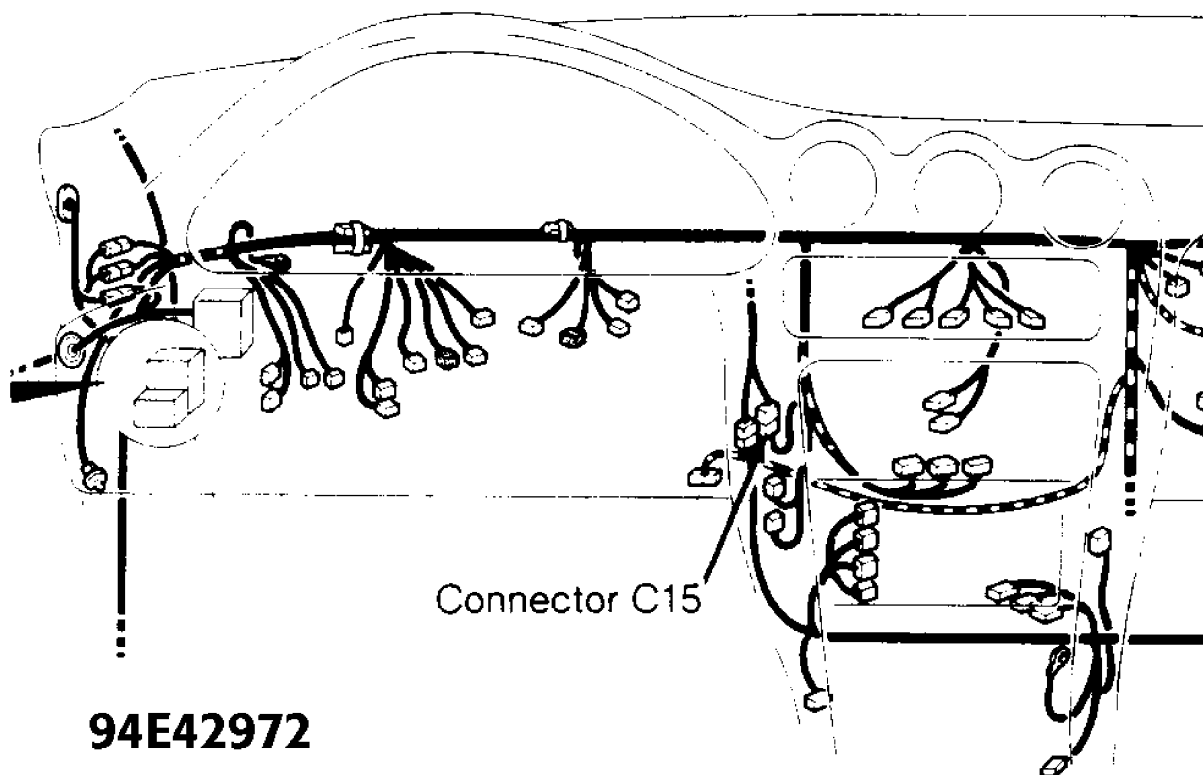

Fig. 13: Locating Connector C15
4) If continuity exists, check for continuity between ground and terminals No. 13 and 14 of SRS check harness connector No. 5. If continuity does not exist, replace SDU. If continuity exists, disconnect connector C15 (connects body wiring harness to instrument panel wiring harness). See Fig. 13.